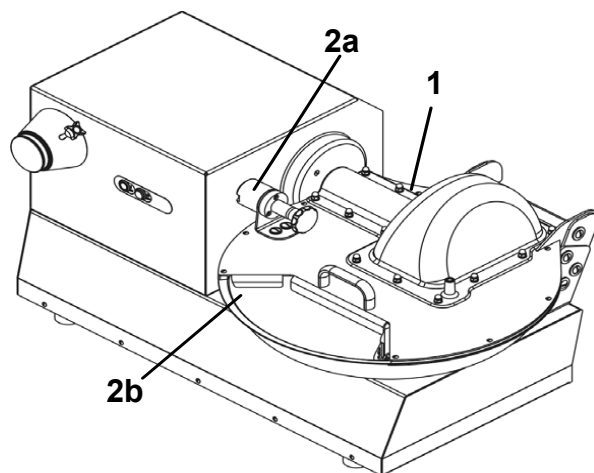

Fig. 1.8.1
The purpose of the lid is to prevent accidental contact of the hands with the tool. (Fig. 1.8.1) Microswitches
2. (Fig. 1.8.1):